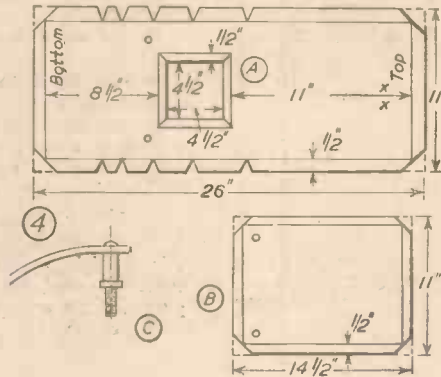
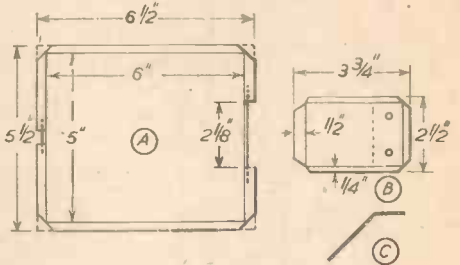

Fig. 5.—The top.
Fig. 6.—The mirror.
For this the size of the metal is 25 in. \times 10 in., allowing for the $\frac{1}{2}$ in. edges to be bent over at right angles. Snip out the V-shaped pieces from the edges, so that the metal can easily be curved. Remove the square "A," bend all the edges $\frac{1}{2}$ in. and flatten them underneath, leaving another opening for ventilation purposes, $5\frac{1}{2}$ in. \times $5\frac{1}{2}$ in. Then bolt this top section to the two sides and front. Over the opening place a covering, $1\frac{3}{4}$ in. \times 10 in. The $\frac{1}{2}$ in. edges are flattened underneath as shown at "B," Fig. 5. This lid is fixed to the top section with two 2 in. bolts and nuts.
A mirror is needed to reflect pictures when the instrument is in use as an episcopo. This is held in a frame cut from tin, $6\frac{1}{2}$ in. \times $5\frac{1}{2}$ in. (See "A," Fig. 6.) Allow $\frac{1}{4}$ in. each side to be turned over on to the mirror. Insert a piece of thick wire, length 3 in., around which the hinge "B" is attached. Cut this hinge from metal, $3\frac{3}{4}$ in. \times $2\frac{1}{2}$ in. Turn over three of the sides $\frac{1}{2}$ in. and flatten. On the fourth side (see "B"), turn the $\frac{1}{2}$ in. around the wire to form the hinge. Then bend as indicated in "C" (viz.: 45 deg.). At the opposite side of the mirror-frame insert another piece of wire, 1 in. long. Attach to this 8 in. of very thin wire.
Now put the mirror in position inside the lamphouse, as shown in Fig. 7. To do this make two small holes in the top section, $\frac{3}{8}$ in. from the front, in the places indicated by "x" in drawing (4) Fig. 5. The mirror has to face the lens. Two holes have also to be made in the hinge attached to the mirror (see "B" Fig. 6). By means of two small bolts and nuts, inserted through these holes, the hinge is fixed to the top section, and consequently the mirror can easily be removed for cleaning.